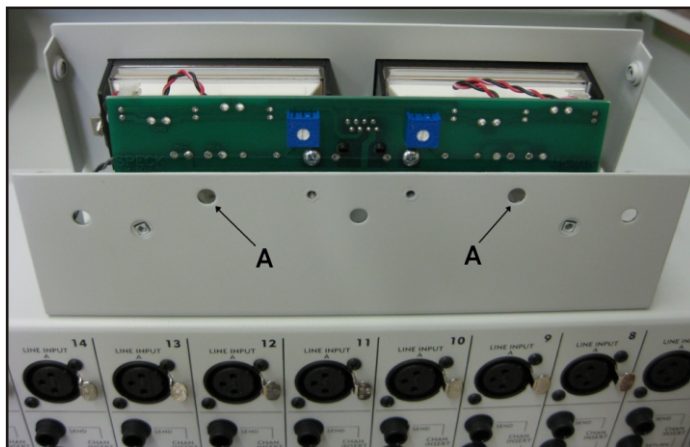
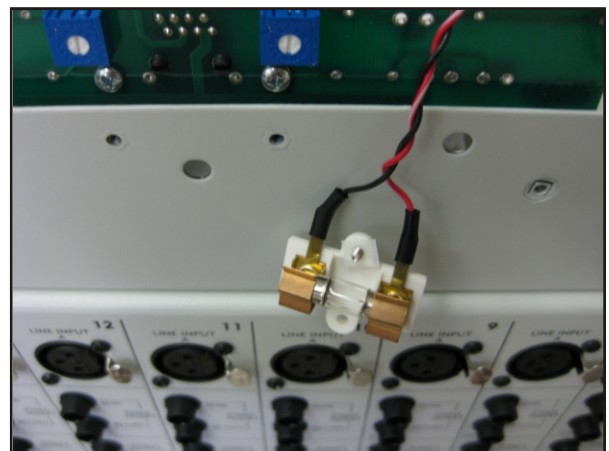

Figure 14a. Screw driver access holes
Figure 14b. Lamp assembly
To remove the white lamp assembly, insert a small Phillips screwdriver through the access holes (A) as shown in Figure 14a. When the white lamp assembly (Figure 14b) has been removed from the VU meter, remove the old lamp by pulling it away from the copper spring clips. Replace with a miniature festoon (6mm x 25mm), 5 volt incandescent lamp (available from Speck Electronics).